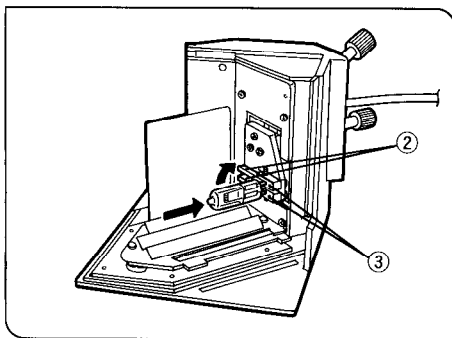

Fig. 21
3. Holding the bulb with gloves or a piece of gauze, depress the bulb clamping levers ②, and insert the bulb pins fully into the pinholes ③. Gently release the bulb clamping levers ② to their original positions to secure the bulb. Whenever you replace the bulb, first turn off the main switch and wait for bulb, lamp socket and lamp house to cool down. (Fig. 21)